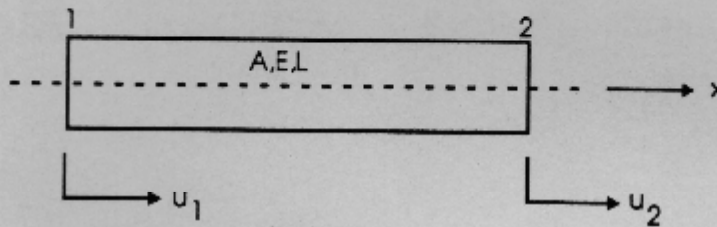

Fig Q5
5. This question relates to a bar element of uniform cross-section as shown in Figure Q5. The element has nodal axial displacement degrees of freedom  $u_1$  and  $u_2$ .